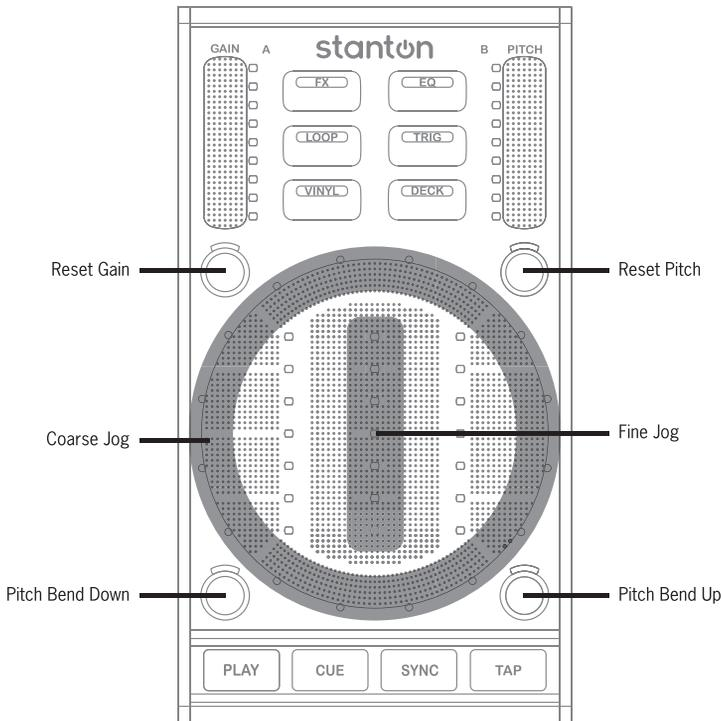

Figure 6.14
6.3.1.2.1 Vinyl Mode 1 (Scratch Mode) (Figure 6.14)